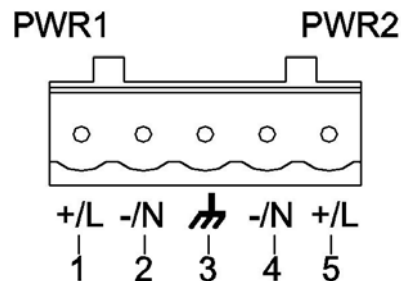

Figure 14 Pin 5.08mm Power Terminal Block
- 5.08mm power terminal block pin number is shown in Figure 14